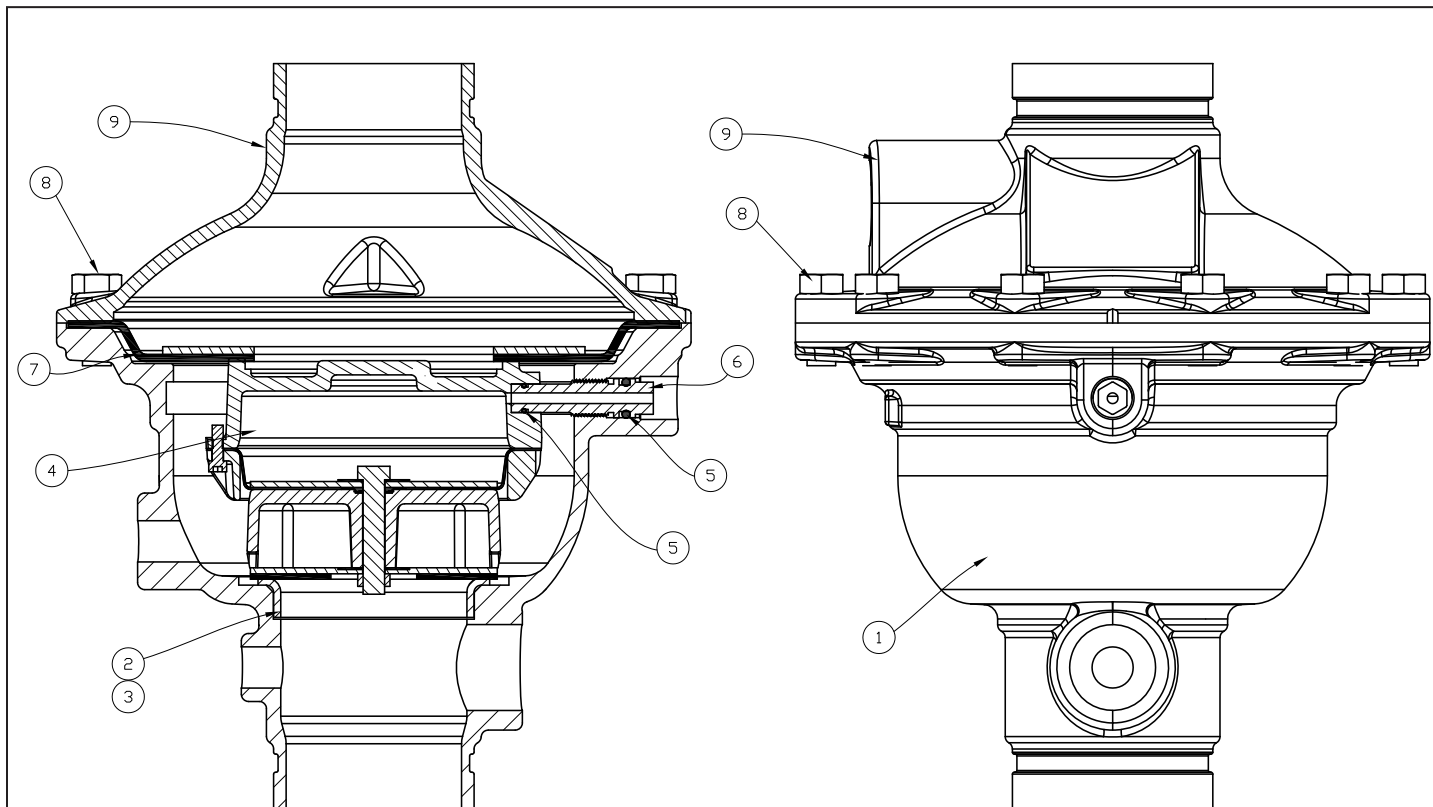

Figure 11 - Model G-3000P Valve Components/Replacement Parts
5. Remove the 10 cover screws (8).
6. The cover (9) and trim that is still connected may now be removed from the valve body. (It may be necessary to pry the valve open as the diaphragm may bond itself to the cover (9) and body over time.)
C. Removing / Replacing the Check Diaphragm: (Refer to Figure 11)
1. The check diaphragm (7) may be lifted from the valve body (1).
2. If necessary, replace the check diaphragm (7).
D. Inspecting the Prime Chamber and Coupling for leaks: (Refer to Figure 11)
E. Removing / Replacing the Prime Coupling: (Refer to Figure 11)
2. Using a wrench on the flats of the coupling (6), remove the coupling (6) from the valve body (1).
3. Inspect the coupling (6) and O-rings (5). Replace if necessary, using the instructions in O-Ring Replacement Bulletin F_120611.
F. Removing / Replacing the Prime Chamber Assembly: (Refer to Figure 11)
1. The prime chamber assembly (4) is now held in place by two flanges on the outside diameter of the assembly. Slide the prime chamber assembly (4) toward the prime line and remove from the body.
G. Re-Assembling the Valve: (Refer to Figure 11)
1. Place the prime chamber assembly (4) in the valve body (1). Make sure the two flanges are positioned in the groove.
2. Thread the prime coupling (6) into the valve body (1). Make sure the end of the prime coupling (6) is inserted into the prime chamber assembly (4).
3. Lay the check diaphragm (8) into the valve body (1).
4. Position the cover (9) onto the valve body (1), and install and tighten the 10 cover screws (8).